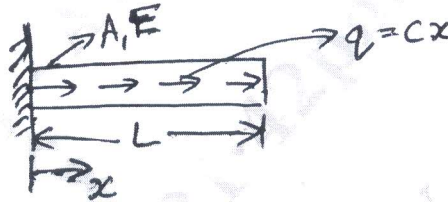

Fig Q2(c)
- A bar of length L , cross-sectional area A and modulus of elasticity E , is subjected to distributed axial load $q = cx$, where C is a constant as shown in Fig Q2(c). Determine the displacement of the bar at the end using Rayleigh-Ritz method.